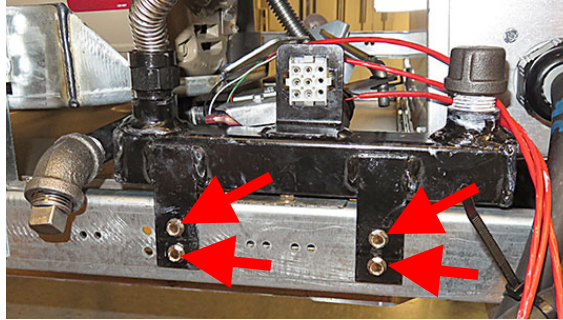

Figure 16
20. Attach the manifold to the rear support (see Figure 16) with 4 cabinet screws using existing holes.